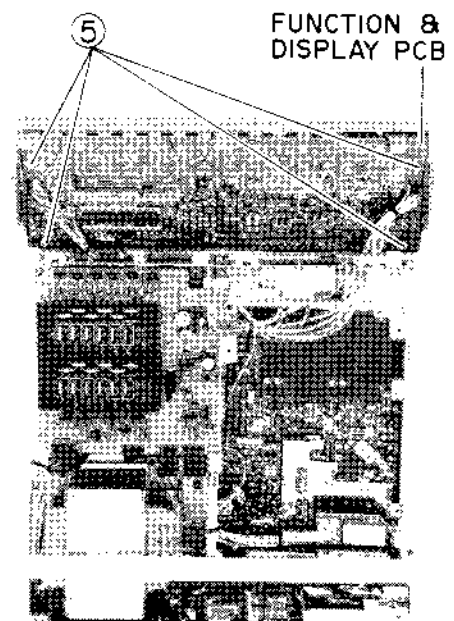

Fig. 2-4 Function & display board
4. Take out 5 screws ⑤ shown in Fig. 2-4 the position the front cover at the bottom. While using care that the knobs etc. do not fall loose, remove the Function & Display board.